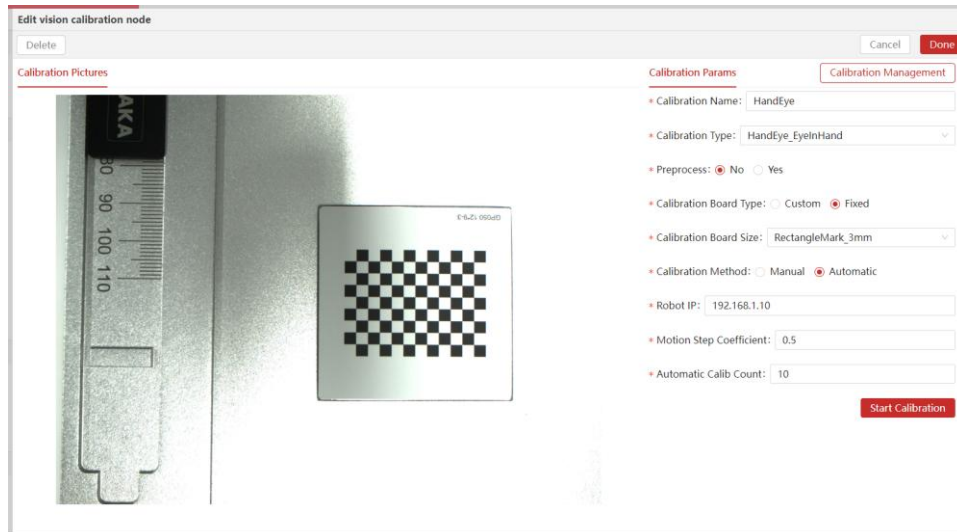

Figure 5.1-4
4) Open the calibration node, such as Figure 5.1-4, configure the calibration parameters, and ensure that [Start Calibration] after the robot is powered on and enabled. If the calibration board exceeds the field of view, please appropriately enlarge and reduce the motion step coefficient. After successful calibration, click [Finish].